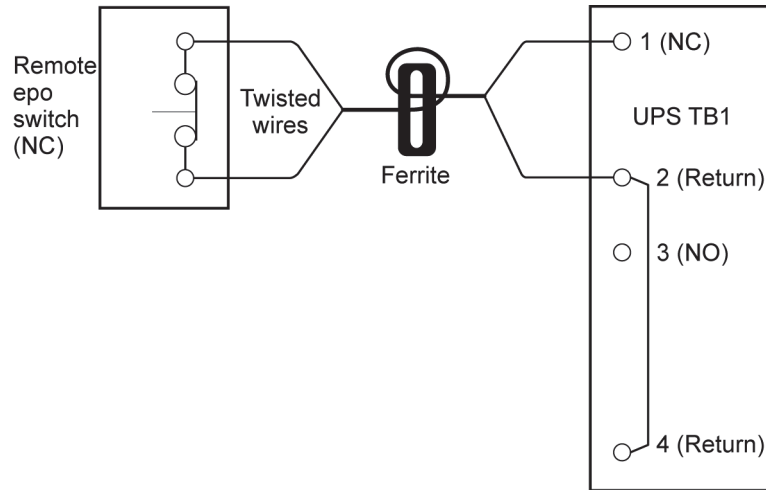
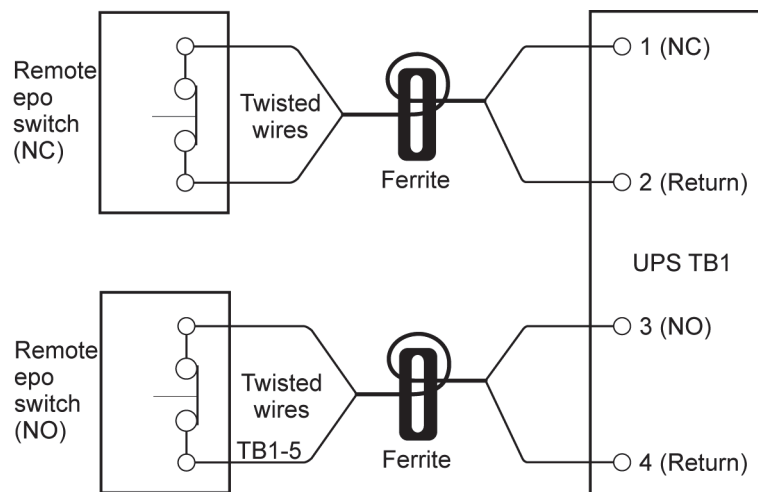

Figure 4-29. Normally-closed remote EPO switch wiring
Figure 4-30. Normally closed and normally open remote EPO switch wiring
10. Snap the supplied ferrite around the remote EPO cable near the TB3 terminals in the UPS. Both conductors of the cable shall pass the ferrite two times. Refer to the Figures 4-29, 4-30 and 4-31 for the ferrite installation.
Figure 4-29 and Figure 4-30 show alternative methods of connecting a remote EPO switch if using another manufacturer's switch.